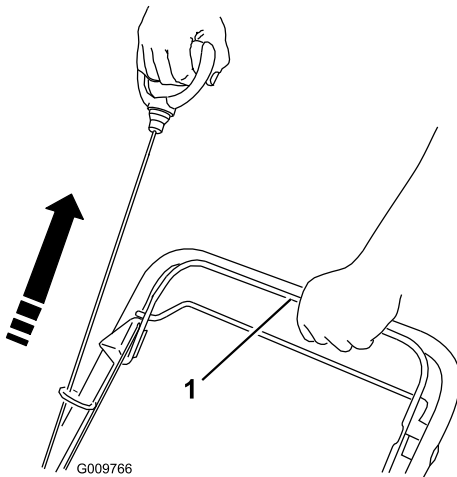
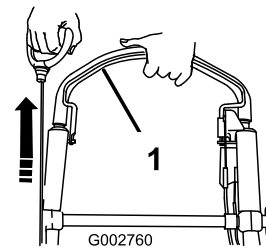

Figure 22
Figure 23
2. Hold the blade control bar against the handle and pull the recoil starter (Figure 22 or Figure 23).